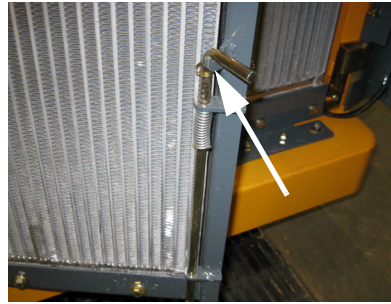

Figure 52 Radiator Latch Pin Placeholder
3. Pull up on the radiator lock pin and put it in its placeholder (Figure 52), then swing the radiator out (Figure 34).